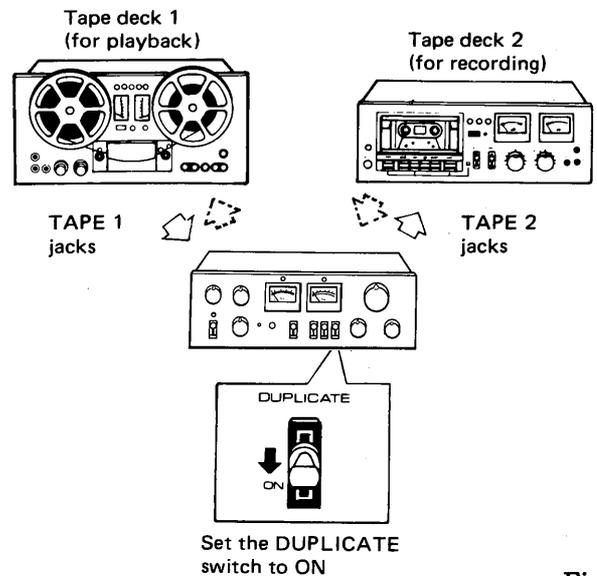

Fig. 9
1. As shown in Fig. 9, connect the tape decks to the amplifier's TAPE 1 and TAPE 2 jacks.